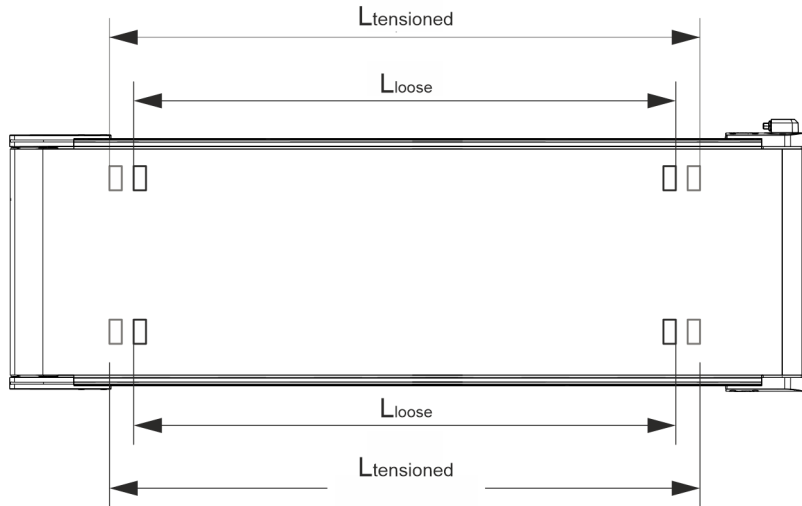

Fig. 72: Positioning measuring marks
1. ➤ Attach four measuring marks to the top of the conveyor belt so that the distance (L_{loose}) is the same on both sides (e.g., 500 or 1,000 mm) (Fig. 72).